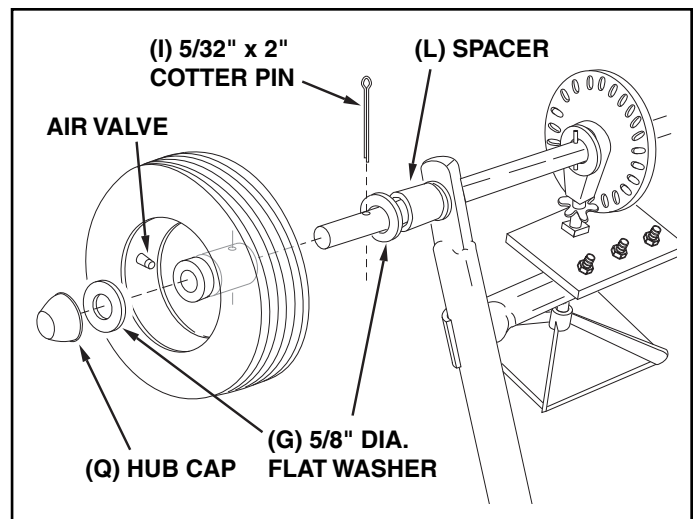

FIGURE 4
- Select the end of the axle containing the cross hole. Assemble a spacer (L), a 5/8" flat washer (G), a wheel (air valve facing out) and then another 5/8" flat washer (G) onto the axle. Insert the 5/32" x 2" cotter pin (I) through the wheel hub and the axle and then spread the ends of the pin. See figure 4.
- Install a hub cap (Q) by tapping it carefully onto the axle with a hammer. See figure 4.
1. If the axle, slotted gear and sprocket assembly is disassembled, mark down the positions of the parts as they are removed. The drive wheel and sprocket positions in relation to the slotted gear determine which direction the spreader plate will spin. Be sure to reassemble them in their original positions. (Refer to figure 4 on page 5.) Use shim washers (Ref. no. 21 on pages 18 and 19) as needed for minimum backlash. Add grease to gear and sprocket.